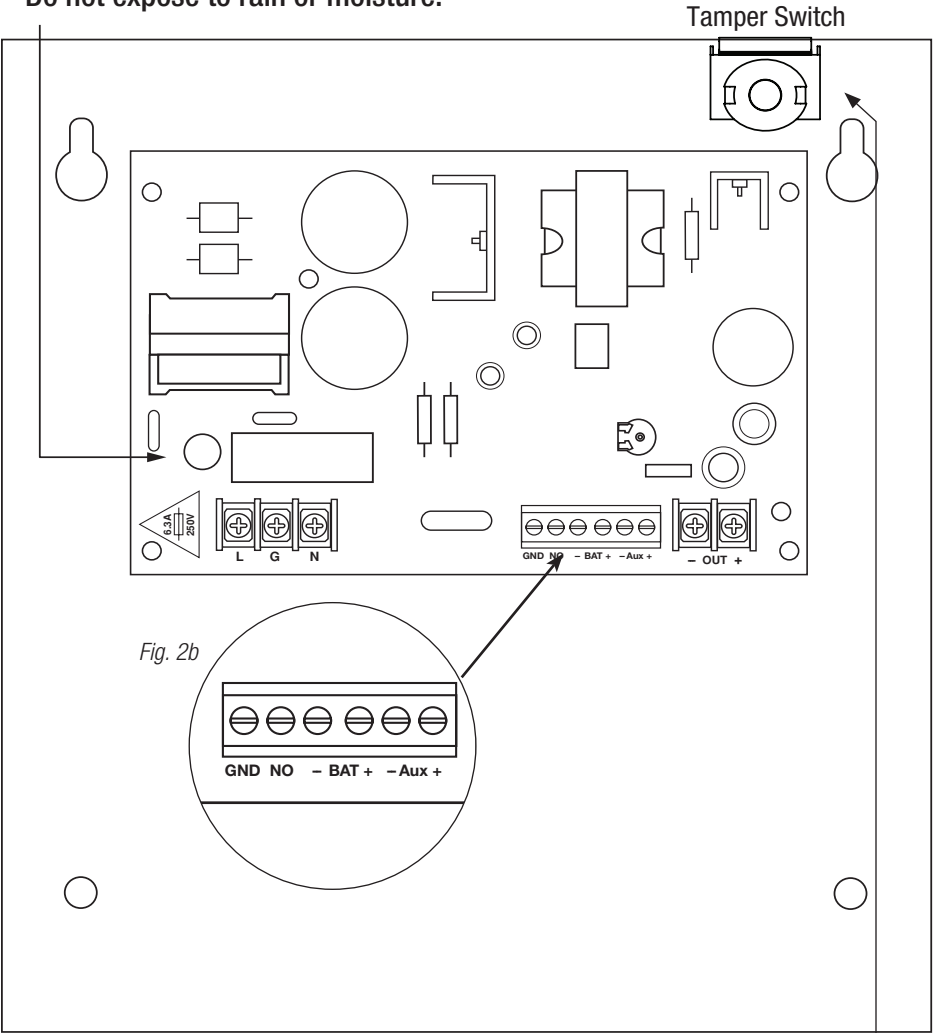

Fig. 2b
3. Measure output voltage at the terminals marked [– AUX +] and [– OUT +] before connecting devices (*Fig. 1, pg. 5 & Fig. 2b, pg. 6*). This helps avoiding potential damage.
5. Connect Normally Open [NO] Dry Contacts from actuating devices such as an Access Control Panel, REX PIR, Keypad, etc. to the terminals marked [GND, NO] (*Fig. 1, pg. 5 & Fig. 2b, pg. 6*).
6. Connect auxiliary devices to be powered (Keypads, REX motion detectors, electronic timers, external relays) to the auxiliary power output terminals marked [– AUX +] (*Fig. 1, pg. 5 & Fig. 2b, pg. 6*).
- When using stand-by batteries, they must be lead acid or gel type. 4AH batteries will provide a 1/2 hour of backup time. Connect two (2) 12VDC batteries wired in series to the terminals marked [– BAT +].
For Access Control applications batteries are optional. When batteries are not used, a loss of AC will result in the loss of output voltage (*Fig. 2b, pg. 6*).